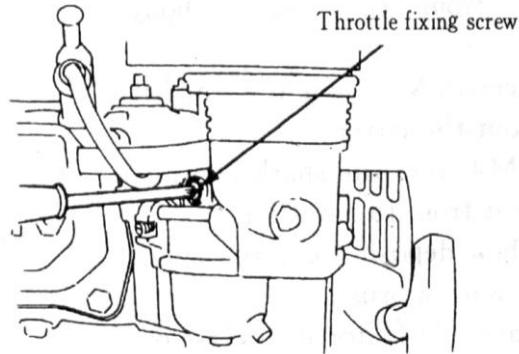

Fig. 31
- a) Start and preheat the engine until arriving at its normal working temperature (Fig.31).